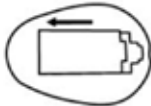

Figure1
1. Pull the cover in rearward direction and open it (According to the figure 1)